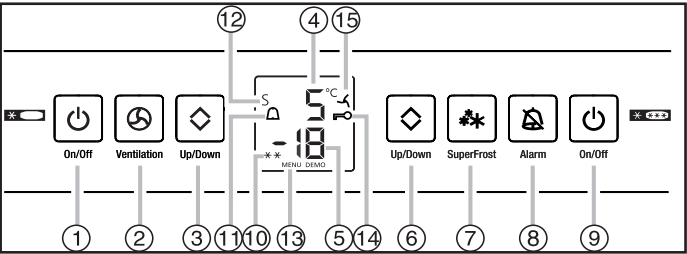

Fig. 11
- ▶ Press On/Off button for the freezer section Fig. 11 (9) for at least 3s.
- ▶ Press On/Off button for the fridge section Fig. 11 (1) for at least 3s.